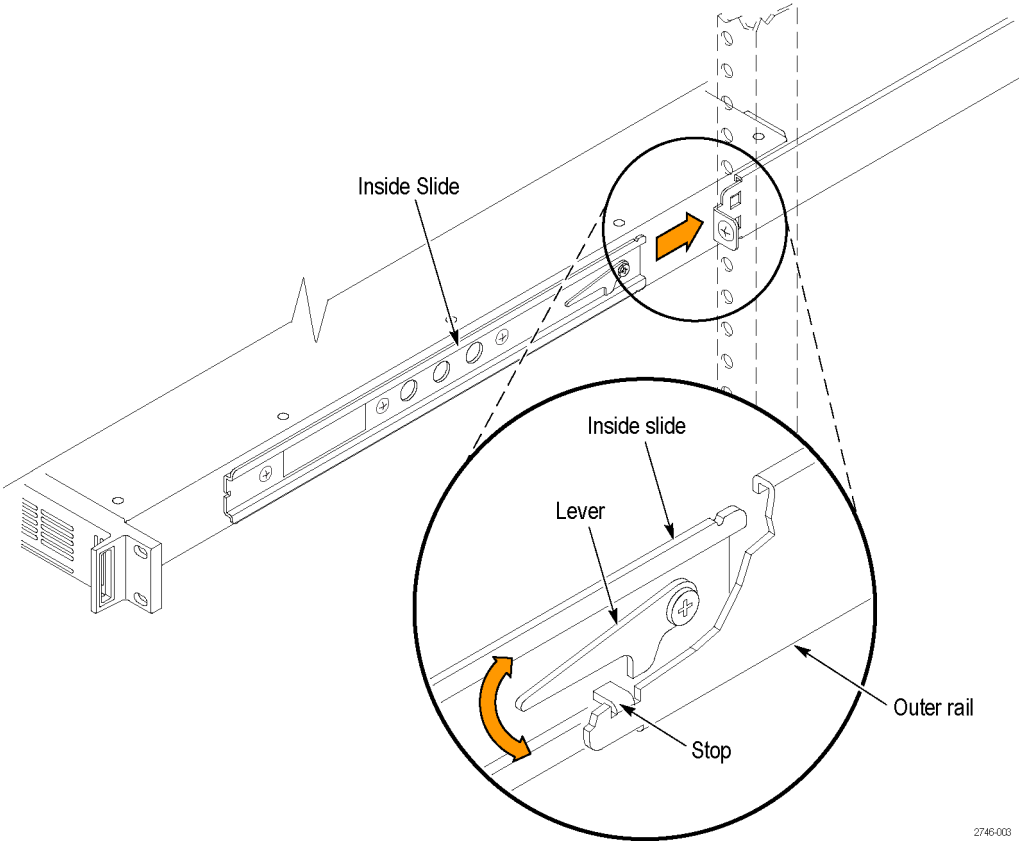

Figure 5: Installing or removing the instrument into or from the rack
1. Insert the instrument left and right slides into the ends of the rack rails while tilting the long handle part of each lever upward. (See Figure 5.)
3. Tilt both lever handles upward simultaneously to allow them to clear the stops. (See Figure 5.)